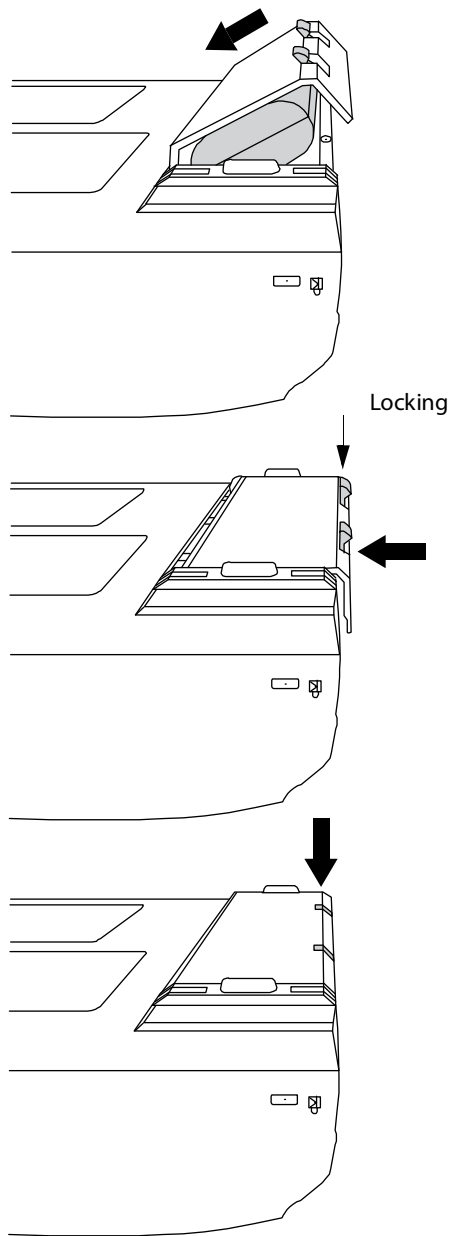

Figure 2-3 Install the battery
- 3** Place the battery into the battery compartment, at a slight angle. See Figure 2-3 on page 2-4.